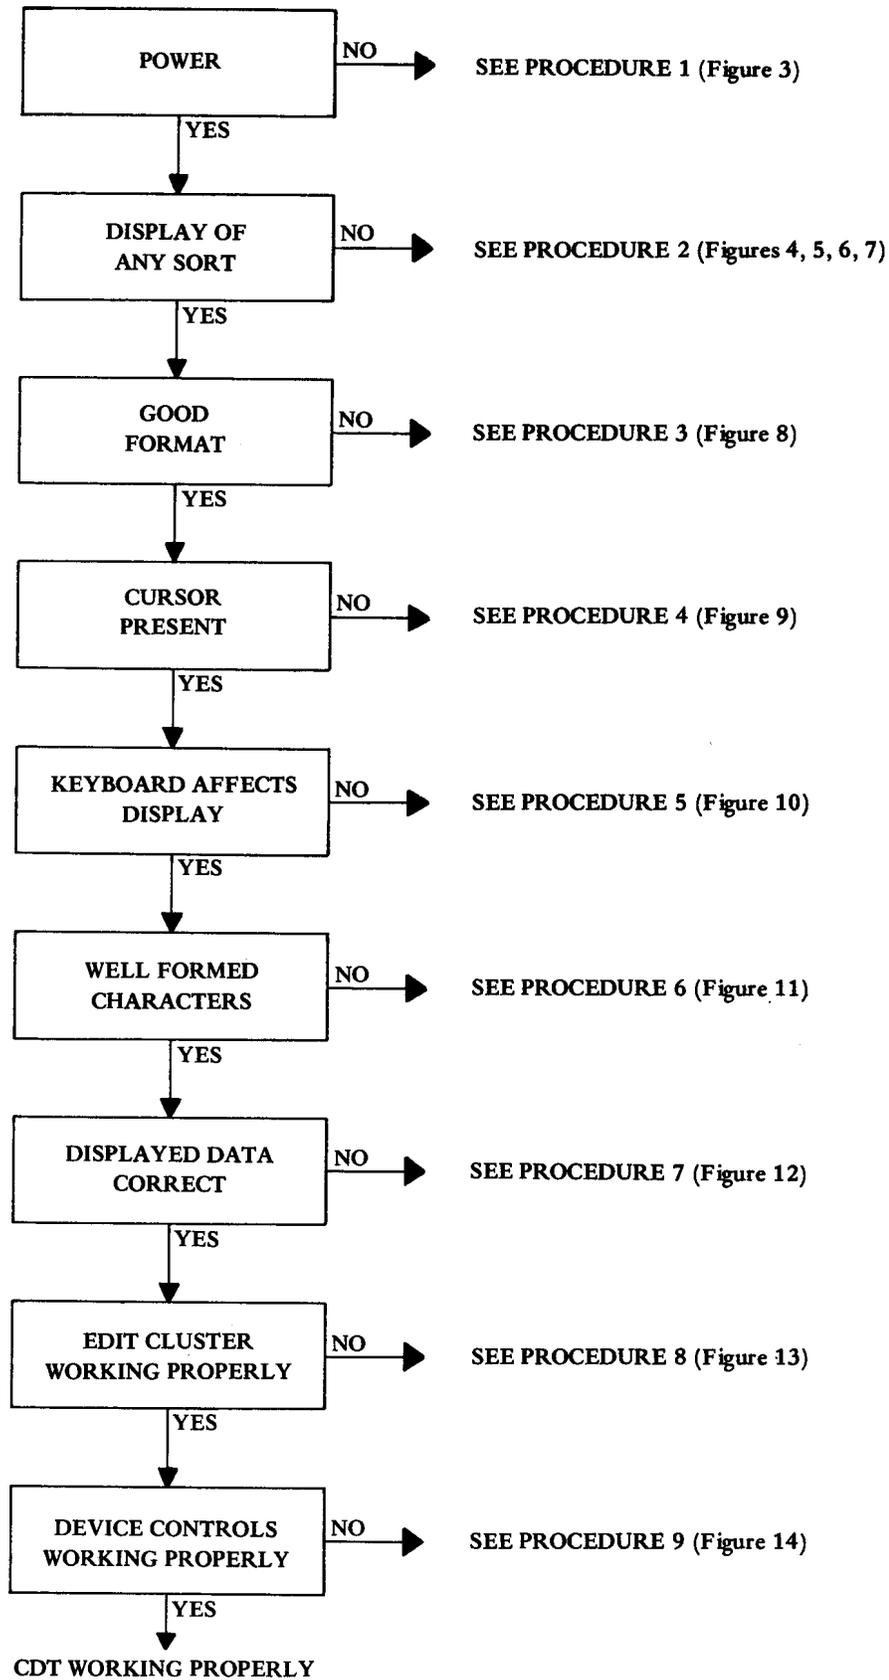

Figure 2 - Basic Trouble Analysis
3.01 The trouble analysis procedure shown in Figure 2 should be followed when the cause of trouble in the CDT is not obvious.
3.04 Follow the trouble analysis procedure for the 2510 CDT as shown in Figure 2.